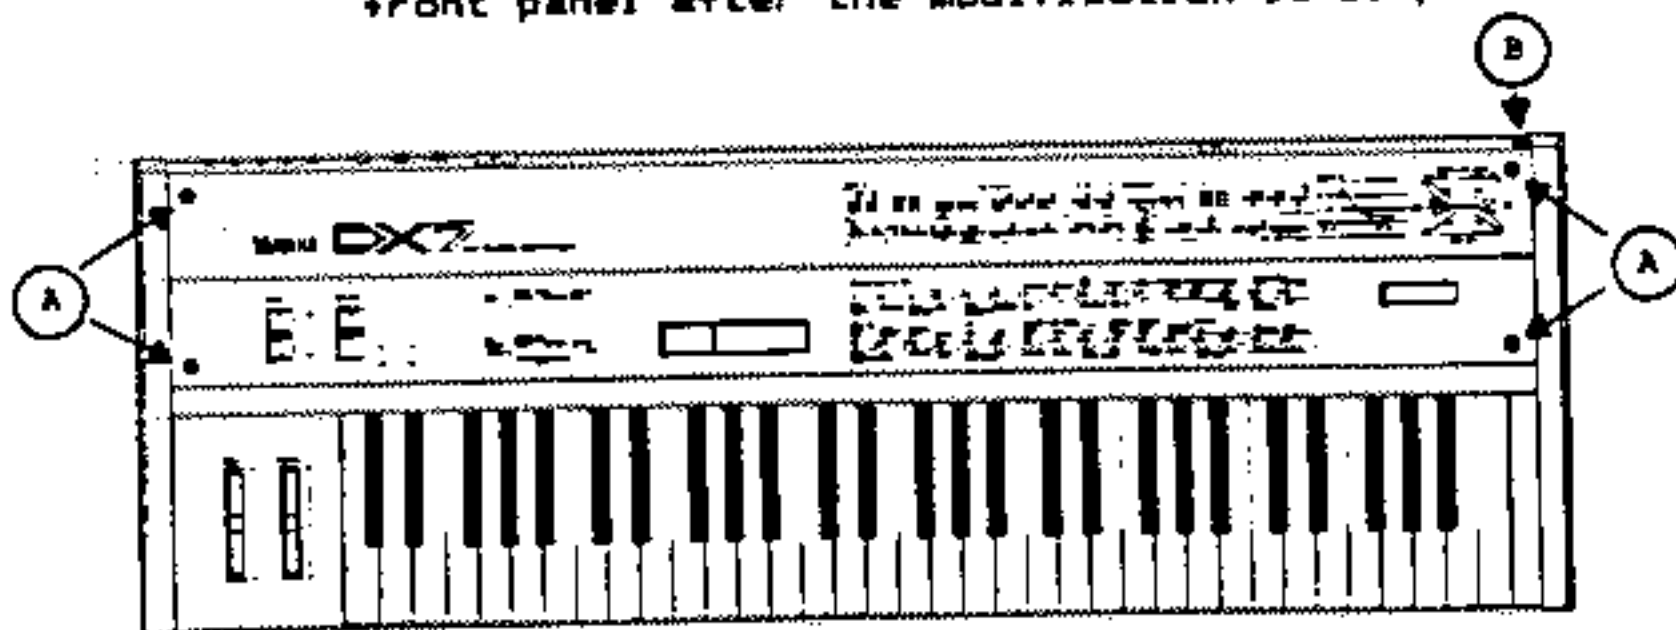

FIGURE A1
- STEP 2: Remove the 5 Phillips-Head screws that secure the DX7's front control panel as shown in FIGURE A1. NOTE: The screw designated with the letter "B" (located next to the power switch) is shorter than the other screws. Please make sure that this screw is used at the same location when securing the front panel after the modification is complete!